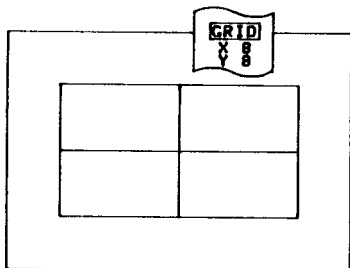

Fig 3
- 5 Draw in the centre lines of the rectangle (Fig 3).